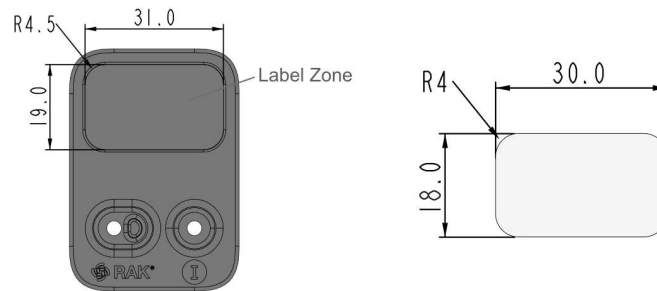
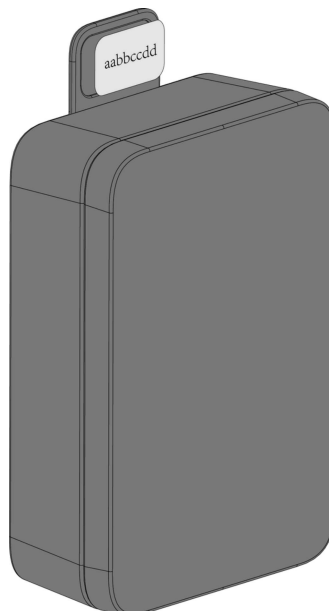

Figure 39: Label dimension
Figure 40: Attaching the label on the enclosure
3. Lastly, you can paste a 30 x 18 mm Fillet R4 label in the label zone, as shown in **Figure 39** and **Figure 40**.